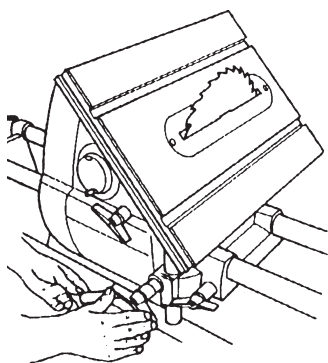

Figure 38
5. Lower the Worktable so the Saw Blade extends through the Table Insert slot. See Figure 38. Lock the Table Height.